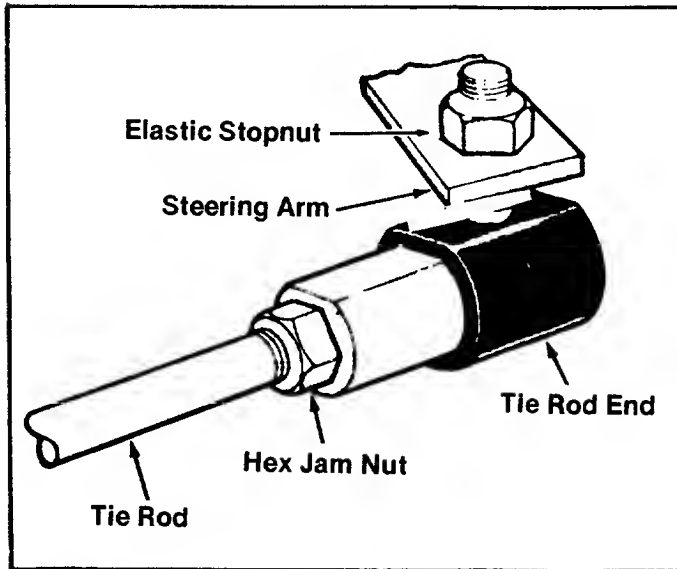

FIGURE 22. TIE ROD END ADJUSTMENTS
- Step 1. Remove the elastic locknut and drop the tie rod end from the wheel bracket. (See figure 22.)